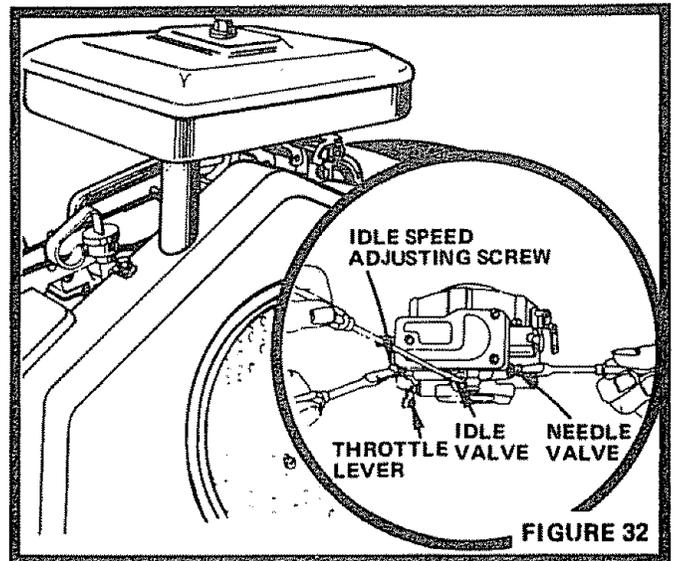

FIGURE 32
- Turn Needle Valve clockwise (↻) closing finger tight ONLY, and then turn counterclockwise (↺) 1 - 1/2 turns (Fig. 32).
Make necessary adjustments (Fig. 32)